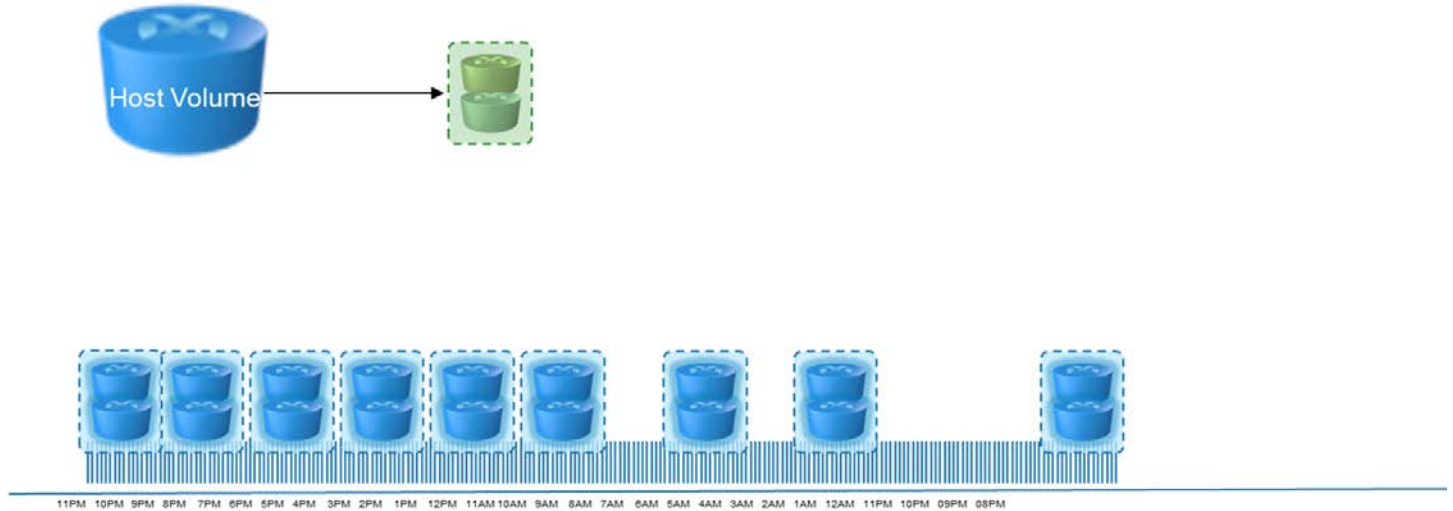

Figure 9. Host Volume Points to Data Container Including Metadata Information
2. Change the host volume to point to the newly created virtual copy, as shown in Figure 9.